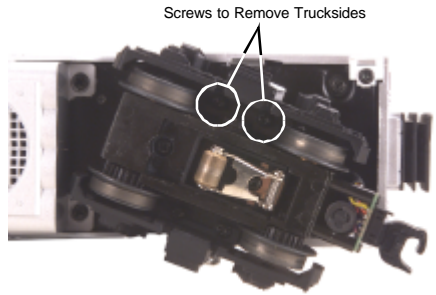

Figure 9. Changing the traction tires on the front truck
First, remove the truck sides from the truck block. To do this, turn your engine upside down. If there are visible Phillips screw heads between the truck frame and truck block (see Fig. 9), go to step A. If not, go to step B.
B. Remove the trucks from the chassis and the truck sides from the trucks in order to slip the new tire over the grooved drive wheel. See Fig. 9 for which screws you must remove to do this.